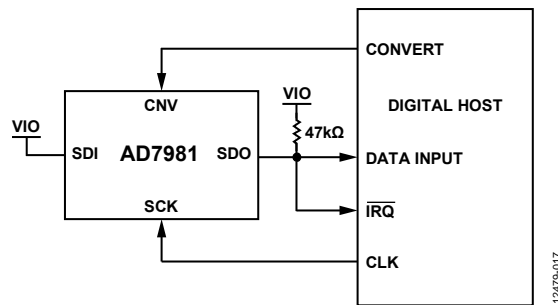
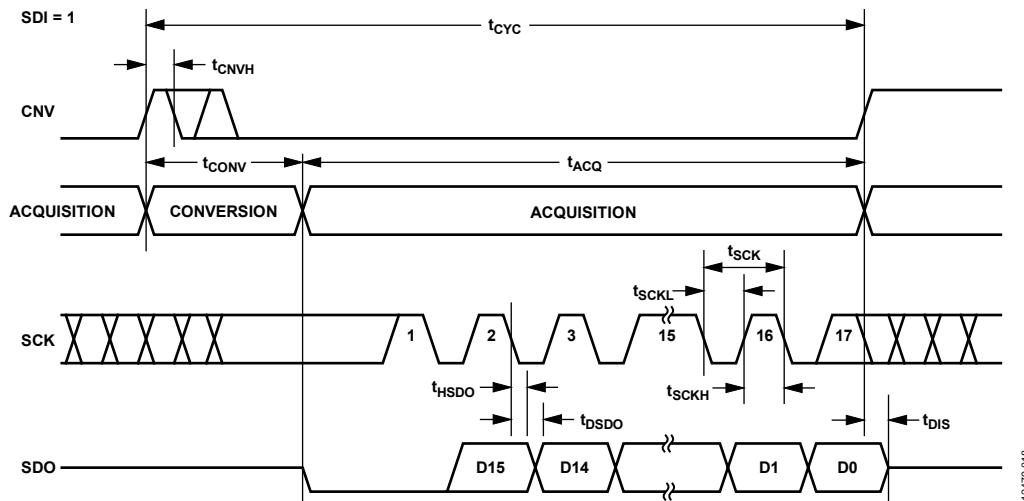
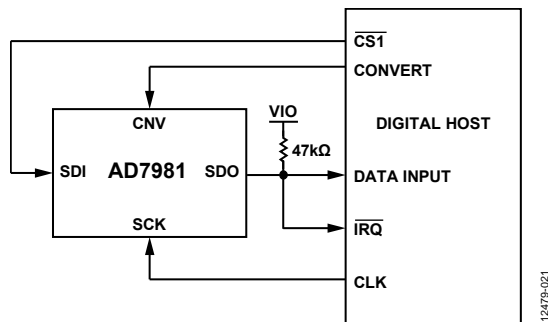
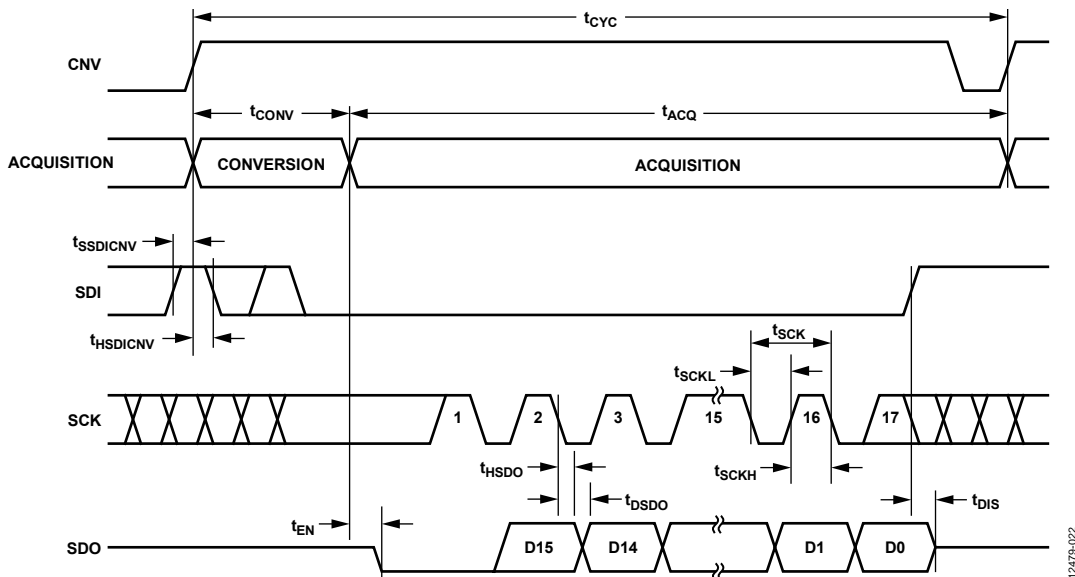

Figure 44. 3-Wire  $\overline{CS}$  Mode with Busy Indicator Connection Diagram (SDI High)
Figure 45. 3-Wire  $\overline{CS}$  Mode with Busy Indicator Serial Interface Timing (SDI High)
Figure 48. 4-Wire  $\overline{\text{CS}}$  Mode with Busy Indicator Connection Diagram
Figure 49. 4-Wire  $\overline{\text{CS}}$  Mode with Busy Indicator Serial Interface Timing
- In  $\overline{\text{CS}}$  mode if CNV or SDI is low when the ADC conversion ends (see Figure 45 and Figure 49, respectively).
The 3-wire  $\overline{CS}$  mode with a busy indicator is typically used when a single AD7981 is connected to an SPI-compatible digital host having an interrupt input. The connection diagram is shown in Figure 44, and the corresponding timing is given in Figure 45.
The connection diagram is shown in Figure 48, and the corresponding timing is given in Figure 49.